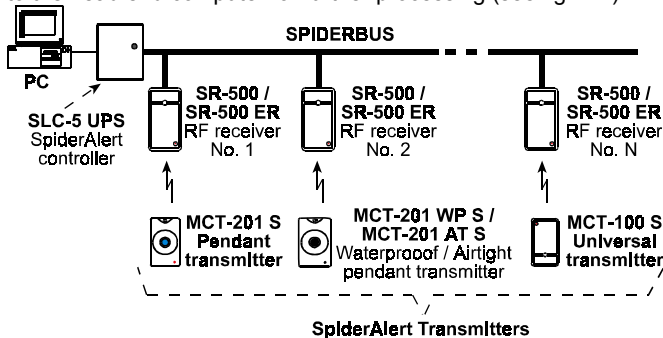

Figure 1-1. SR-500 (ER) in the SpiderAlert System
SR-500 (ER) receives RF signals from SpiderAlert transmitters and relay the signals to the SpiderAlert Local Controller SLC-5 via the SpiderBus. All data collected by the SLC-5 is transferred to the head end computer for further processing (see fig. 1-1).